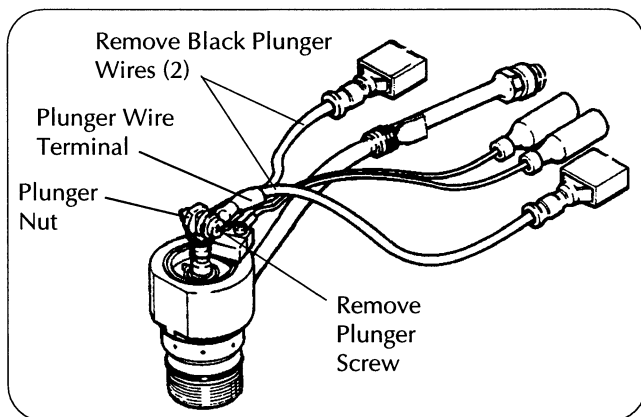

Figure 5 Replacement Torch Main Body - 120556
5. Remove the plunger screw and nut from the replacement torch main body 120556 and remove the black plunger wires (2) - Fig. 5. Note: Hold the plunger nut with a 1/4" nut driver or wrench when removing the plunger screw.